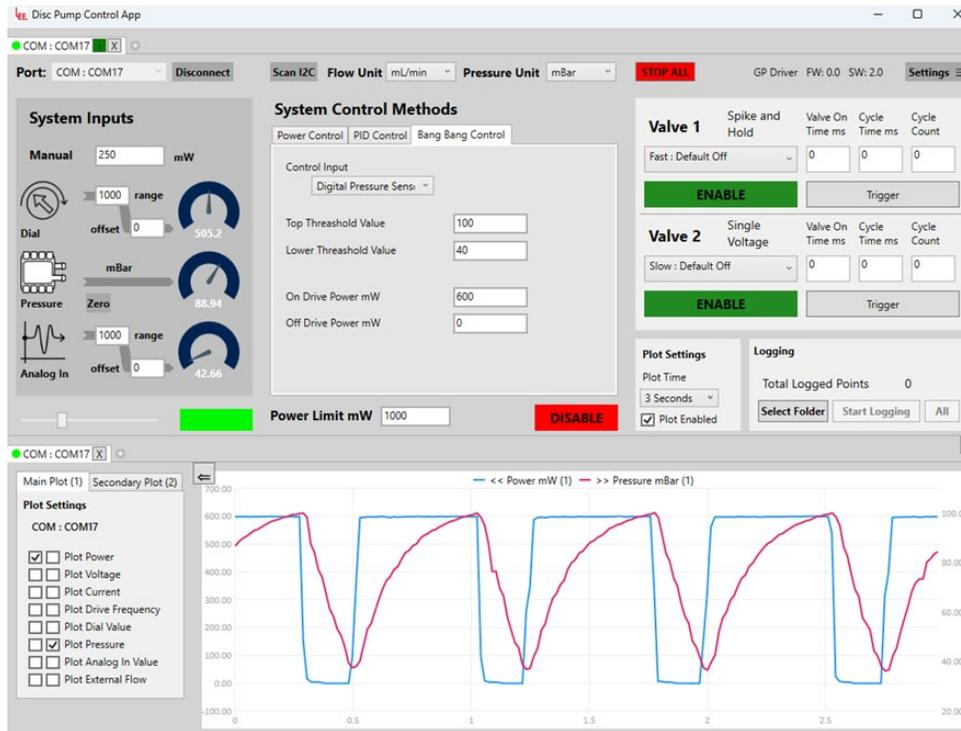

Figure 29. Disc Pump Control App GUI
- The application should now be connected and display all the current settings on the GUI as shown in Figure 29.